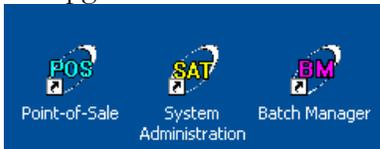

Figure 2.25.4
16. Upon a successful installation, three shortcut icons to the POS program (POS –Point-of-Sale, SAT – System Administration, and BM, Batch Manager) will appear on the PC desktop (Figure 2.25.4). The version number can also be verified by signing on to the SAT, POS, or Batch Manager and clicking **'Help'**, **'About PCC OTC'** from the menu at top of the screen. Login and password data is retained during the upgrade so users can sign on to the system as they did before the upgrade.